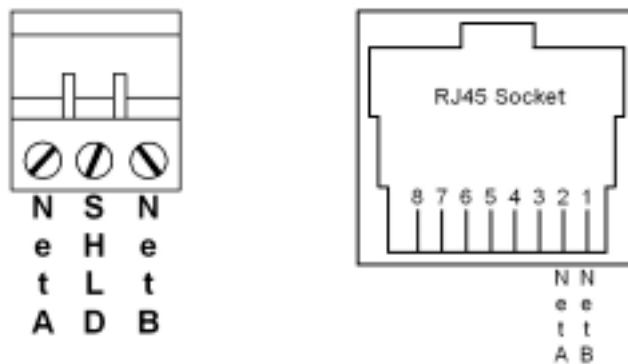

Figure 1.6 – LONWORKS Option Connections
- 5:** Connect the *LONWORKS Option* to the LONWORKS communication network. Refer to **Figure 1.6 – LONWORKS Option Connections**.